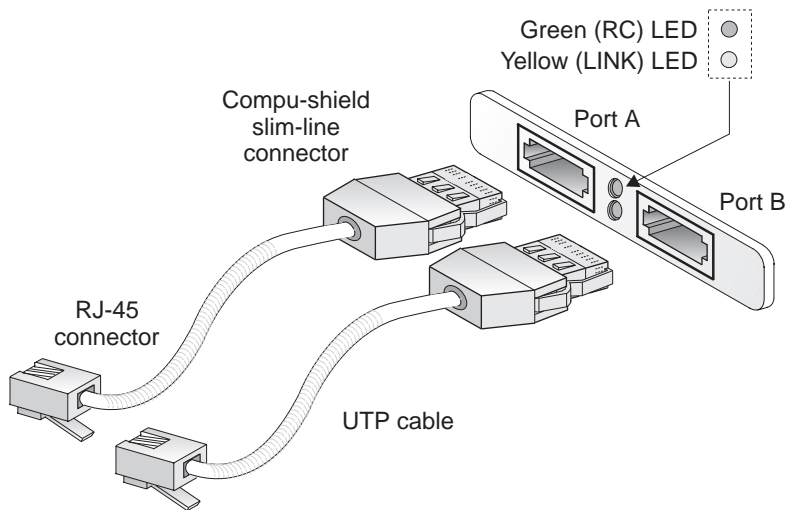

Figure 2-6. PB04511-004 Dual Attach Compu-shield Connection
- If you have a dual attach UTP PB04511-004, see Figure 2-6 on page 14.